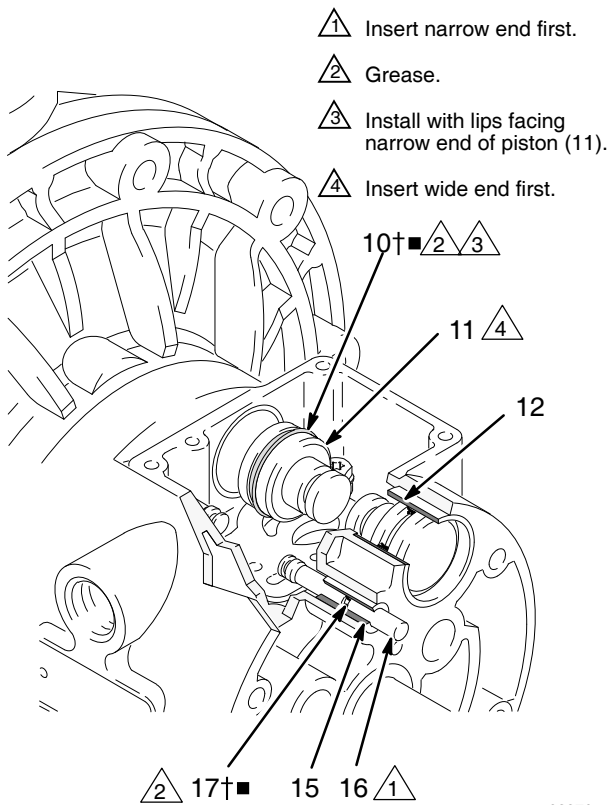

FIG. 8
4. Pull the two actuator pistons (11) out of the bearings (12). Remove the u-cup packings (10) from the pistons. Pull the pilot pins (16) out of the bearings (15). Remove the o-rings (17) from the pilot pins. See FIG. 8.
6. Inspect the bearings (12, 15) in place. See FIG. 8. The bearings are tapered and, if damaged, must be removed from the outside. This requires disassembly of the fluid section. See page 22.
4. Install an o-ring (17†■) on each pilot pin (16). Grease the pins and o-rings. Insert the pins into the bearings (15), **narrow** end first. See FIG. 8.
5. Install a u-cup packing (10†■) on each actuator piston (11), so the lips of the packings face the **narrow** end of the pistons. See FIG. 8.
6. Lubricate the u-cup packings (10†■) and actuator pistons (11). Insert the actuator pistons in the bearings (12), **wide** end first. Leave the narrow end of the pistons exposed. See FIG. 8.